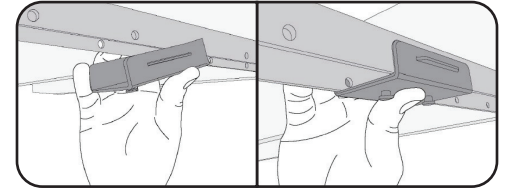

fig 4.1
3. Clip the universal mounting bracket, included with the Power Adapter, onto the Smart Track making sure the plastic nubs snap into place. (fig 4.1)